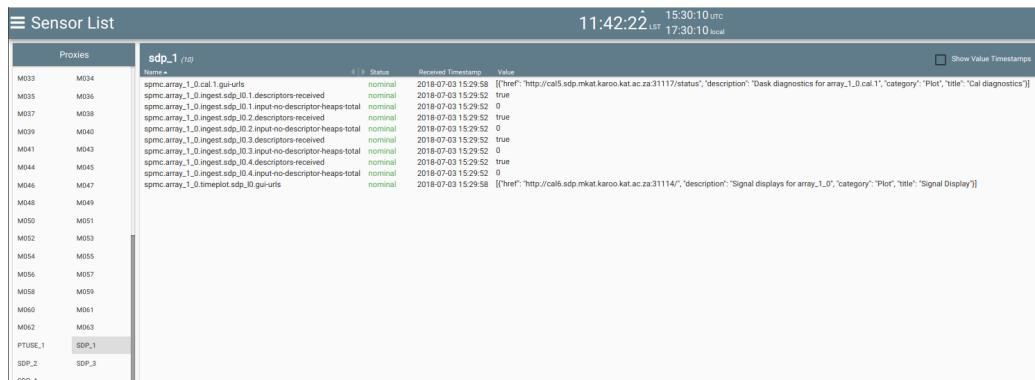

Figure 9.3: SDP sensors
- Search for “desc” and hide nominals, the no-descriptor-heaps-total should preferably remain at zero for all ingest nodes (see **Figure 9.3**) but there are times where one or two ingest nodes will increase for a very short period after the observation begins.